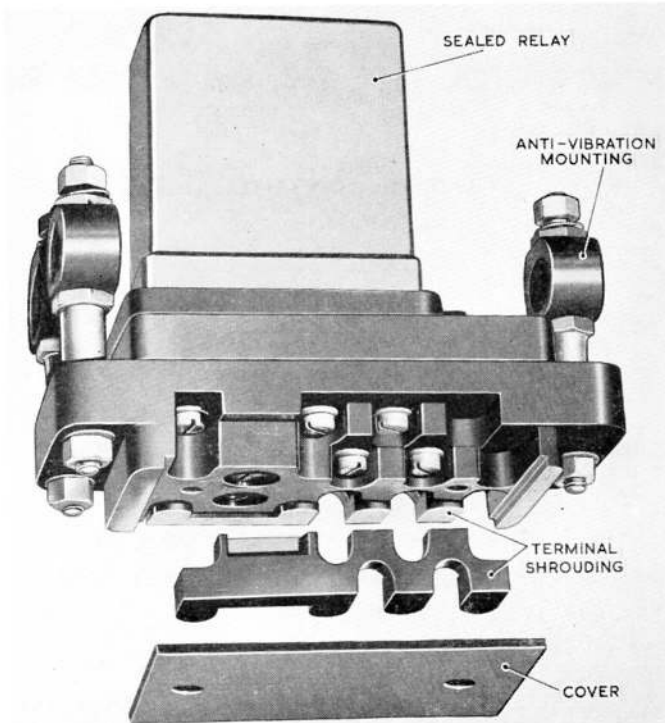

Fig. 1. Magnetic switch, Type I6B, No. 6
2. This switch (*fig. 1*) consists of a sealed relay, Type M1092 (Inter - Service Ref. Z530003) secured to a moulded Bakelite base plate having shrouded 6 B.A. terminals. The switch is designed for panel mounting, and is provided with three rubber anti-vibration mountings incorporating 4 B.A. fixing studs.